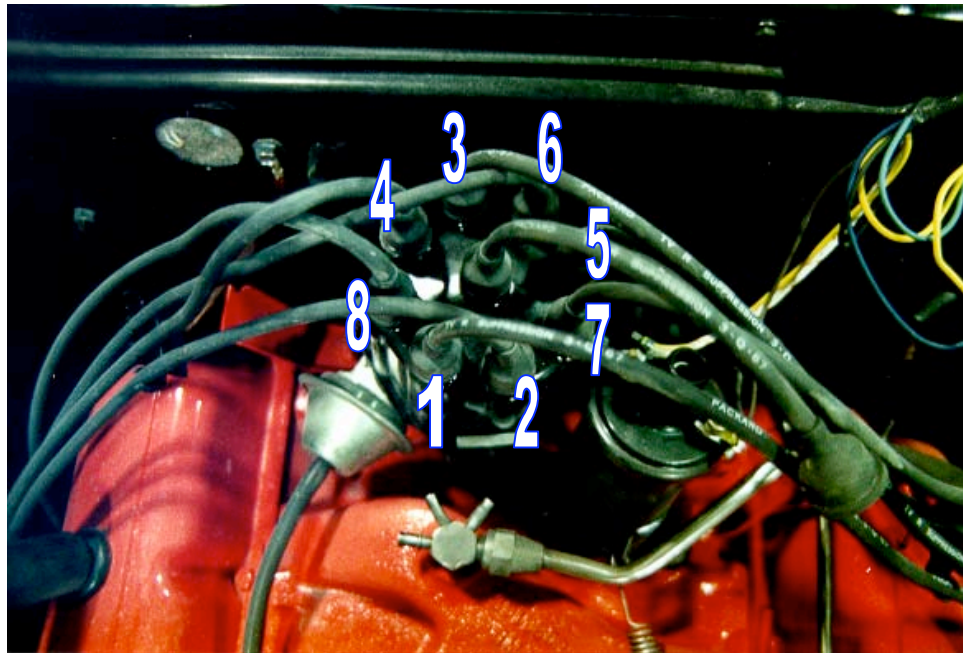

Figure 2: Correct Spark plug Wire Order and Placement
9. If everything is aligned (and it will be if you followed these steps), install the cap and install the plug wires as shown in figure 2.